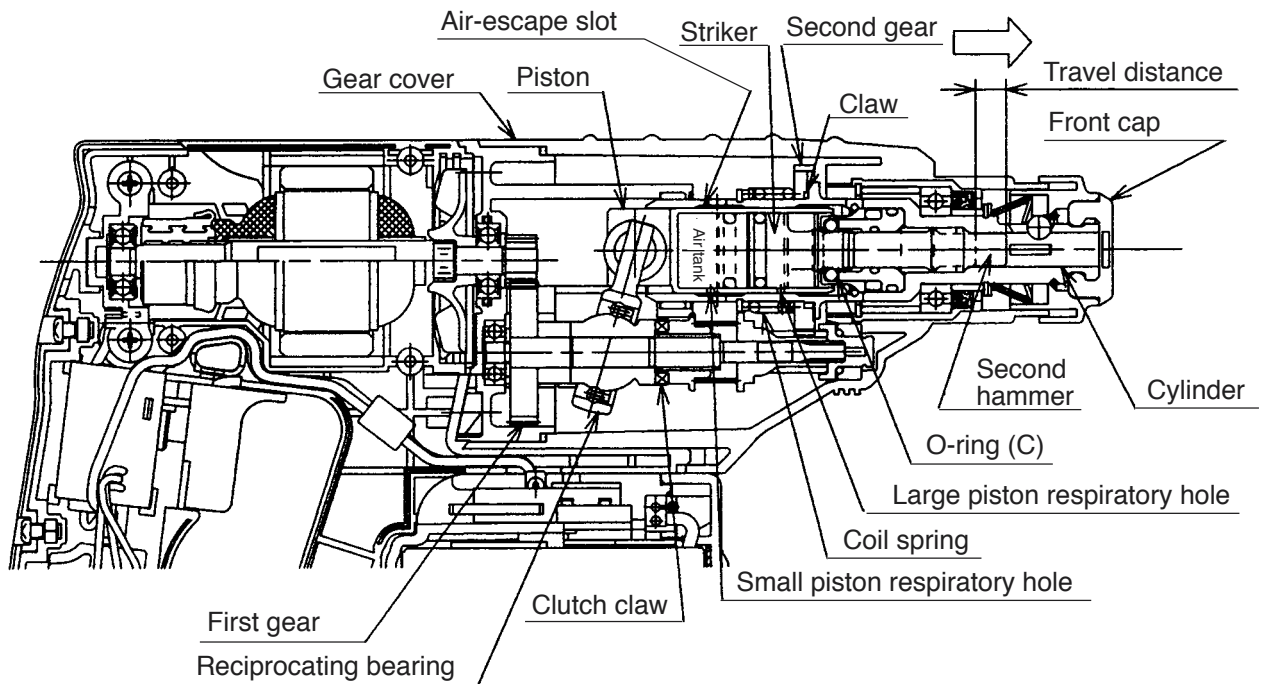

Fig. 6
The idle striking prevention mechanism in the Model DH 24DVA is different from that of conventional hammer drills. When the drill bit is lifted from the concrete surface on completion of drilling, the second hammer moves to the position indicated by the continuous lines in Fig. 6, and the protruding (lip) portion at the tip of the striker is gripped by O-ring (C) mounted between the hammer holder and the damper holder. In this state, should the piston continue to move so that the small piston respiratory hole is blocked by the inner wall of the cylinder, the air in the air chamber will pass through the large piston respiratory hole and be released through the air-escape slot and large cylinder respiratory hole provided on the inner wall of the cylinder. Accordingly, there is no change in the air pressure within the air chamber, and movement of the striker (idle hammering operation) is prevented. The gripping force of O-ring (C) on the striker is so small in comparison with the conventional mouth system that practically no pressing force at all is required to restart the hammering operation.